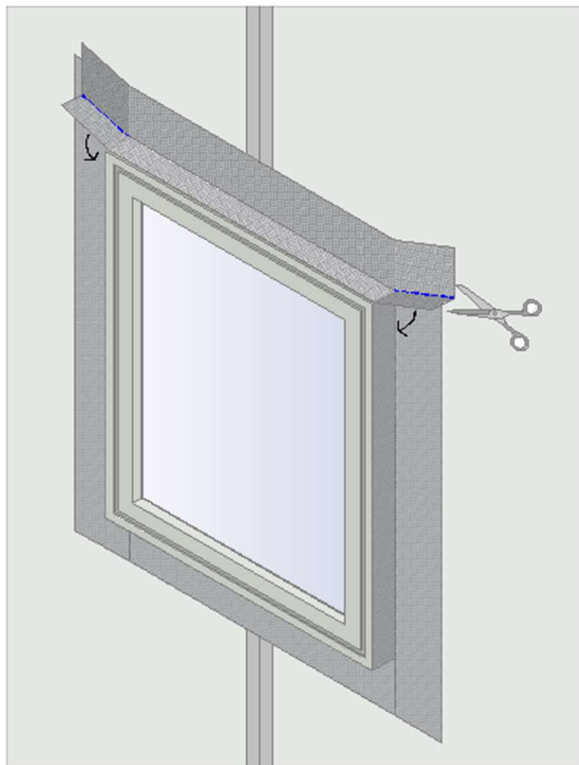

Figure 12
- Cut the un-bonded sections of membrane at each end of the window frame and fold around the head and sill (figure 12). The flap can be cut down to a minimum of 100 mm if required.